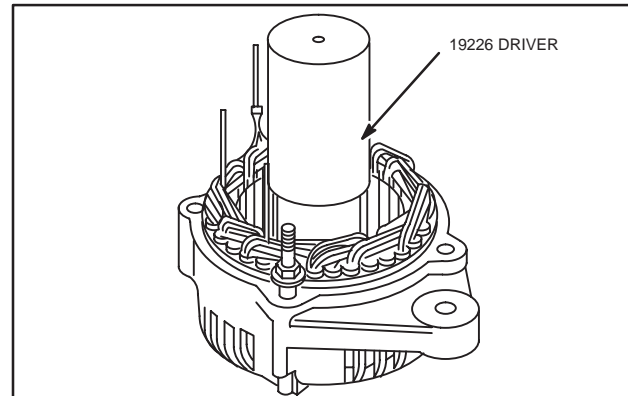

Fig. 29 – Install Ball Bearing
2. Press in new bearing using bearing driver #19226, Fig. 29.